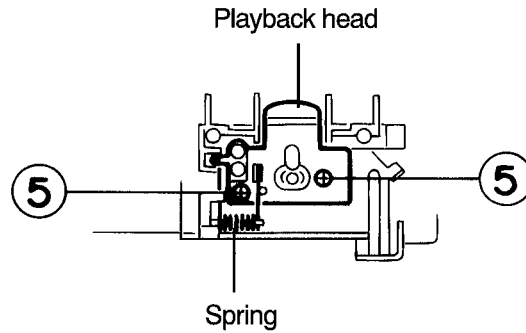

Fig. 4
■ Removing the Playback Head (See Fig. 4)
6. Remove the two screws ⑤ securing the playback head.